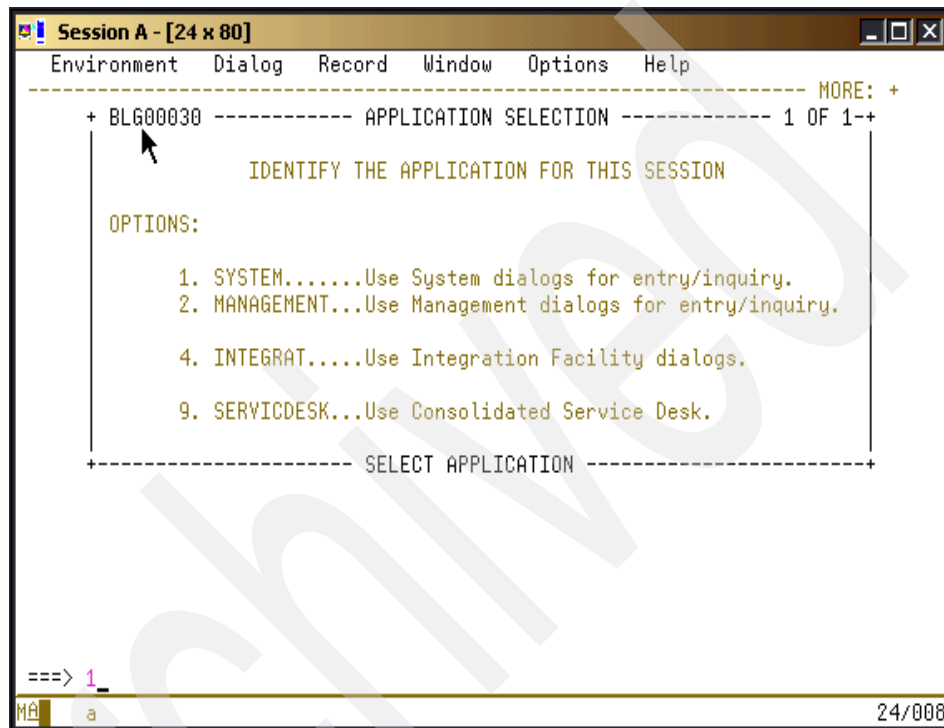

Figure 2-4 Application selection menu
1. Select option **3 - APPLICATION**. The APPLICATION SELECTION panel shown in Figure 2-4 displays.